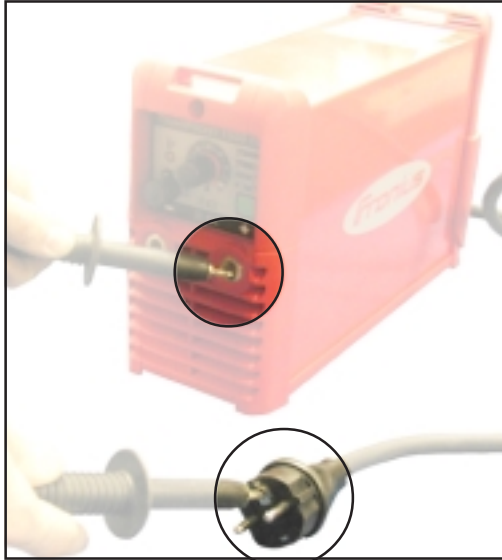

Fig.25 Insulation test - Secondary circuit / earth
- Place a test-prod against one of the welding sockets (e.g. ⊕ socket) (Fig.25)
- Place the second test-prod against the protective contact of the mains plug (Fig.25)